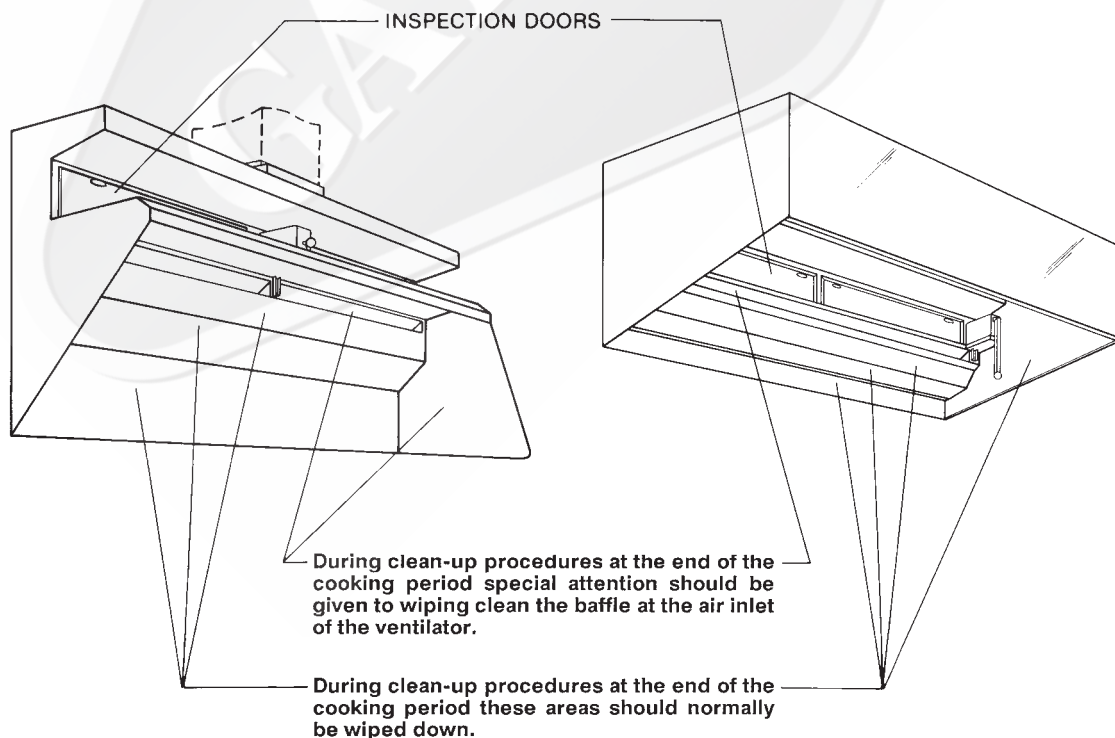

FIG. 15
2. After the wash cycle is completed, wipe the exposed front surface of the baffle at the air inlet of the ventilator, as well as other exposed exterior surfaces. (Refer to Figure 15)
2. At least monthly, at the conclusion of a wash cycle, open the inspection doors of the ventilator and check to ensure that the interior has been cleaned of grease, dust, and lint. (Refer to Figure 15) If overall cleaning appears to be inadequate, refer to "Trouble-Shooting of the Wash System", Page 19.